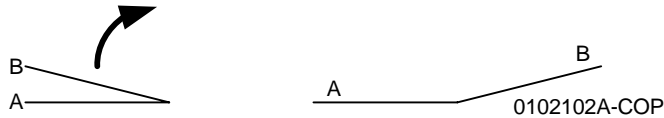

Figure 1 Fold Specification
4. Measure X1 and verify Fold Position on each job against the Fold Specification table in Figure 1.